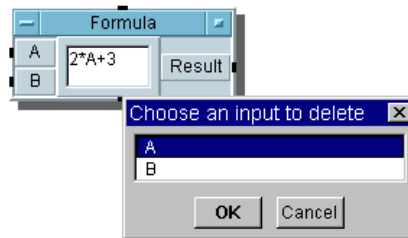

Figure 1-24. Delete Terminal Dialog Box
1. Open the object menu and select `Delete Terminal ⇒ Input...` or `Delete Terminal ⇒ Output`, choose the input or output to delete, and click OK. For example, Figure 1-24 shows the dialog box that appears when you choose `Delete Terminal ⇒ Input...`.